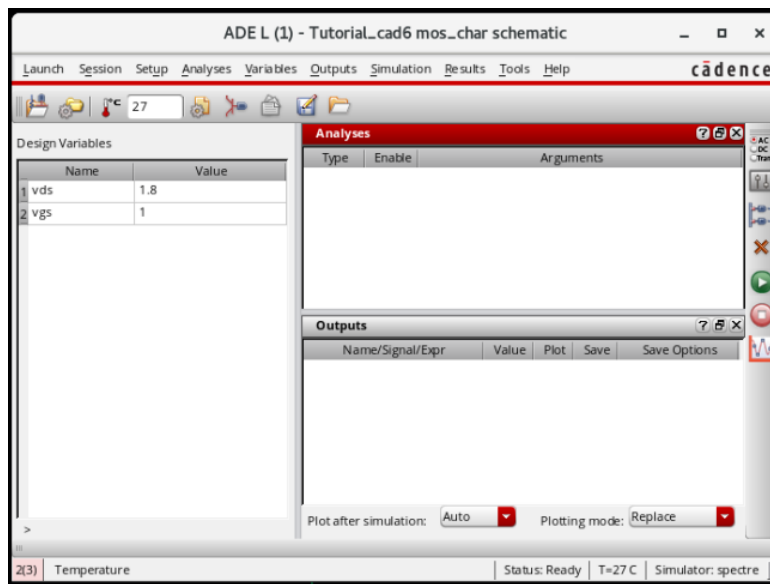

Figure 3: ADE L Window with Design Variables Populated
5. You can copy the variables from your schematic into the simulation window by selecting Variables > Copy from Cellview on the ADE toolbar. You should see the 'Design Variables' area populated by your DC voltage source variables, as shown in Fig. 3. If you do not set a value for each variable, the simulation will not run.